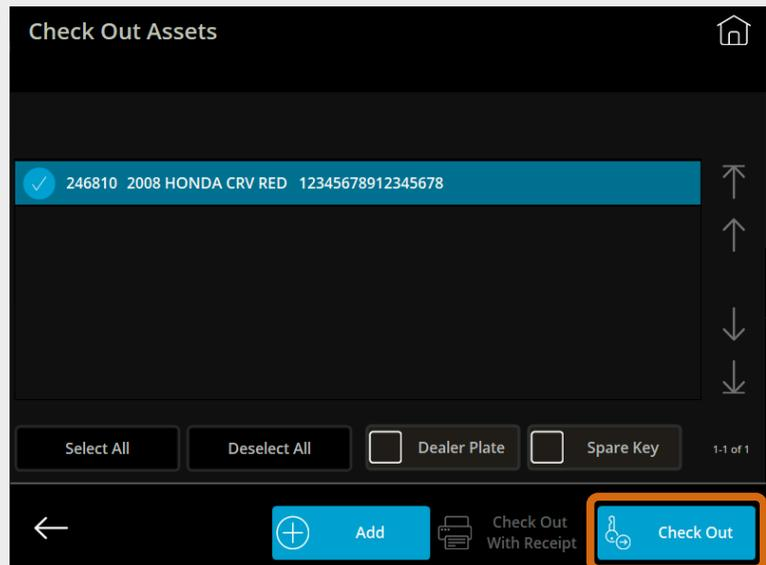

Fig. 48 – Check Out Assets screen with Check Out button indicated
- Press **Check Out**, as shown in Fig. 48.